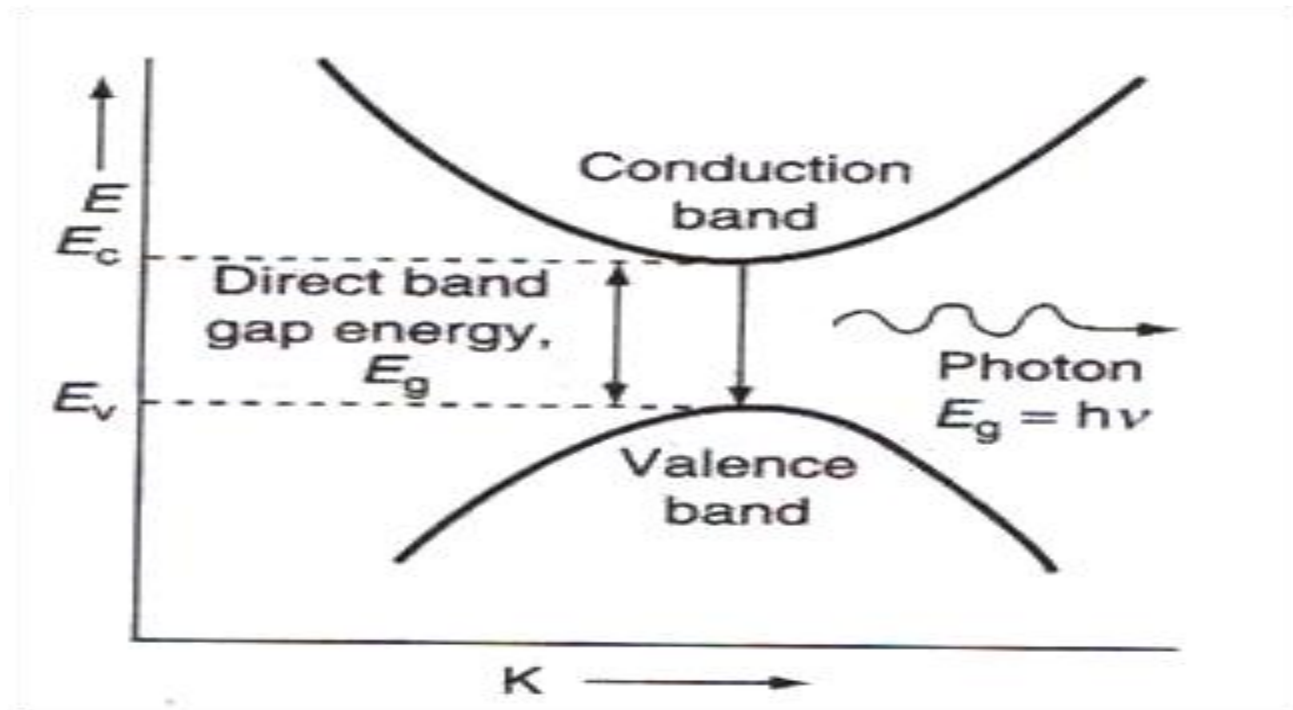

Figure 6. (a) Direct band gap semiconductor : E-k curve
- ▶ In direct band gap semiconductors, minima of conduction band curve is set right above the maxima of the valence band curve [Fig 6(a)].